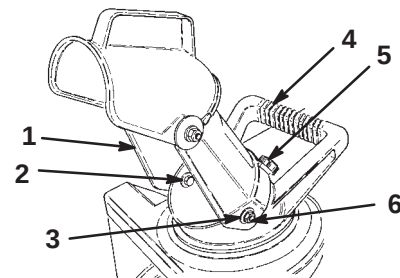

Figure 3
1. Position the holes in the sides on the discharge chute over the two hex bolts on the sides of the chute handle (Fig. 3).
2. Secure the discharge chute onto the hex bolts with two washers and two locknuts (Fig. 3).
4. Install the knob **tightly** onto the screw at the rear of the discharge chute (Fig. 3).